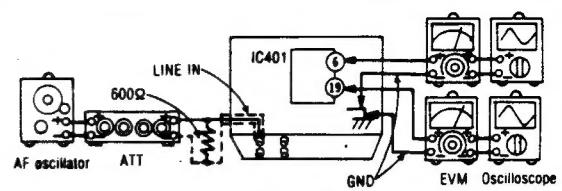

Fig. 10
1. Test equipment connection is shown in Fig 10.
3. Adjust by attenuator so that the output between terminal ① (L-CH) (terminal ⑩ (R-CH)) of IC401 and ground is 12.3mV.